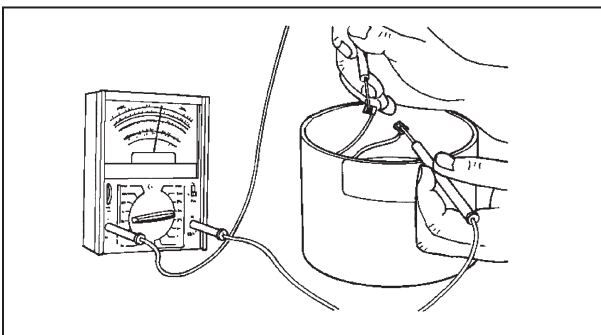

Figure 4.16
6. Test stator windings for open, grounded, or shorted conditions by connecting ohm meter leads to stator red and orange wires (see Figure 4.16). If meter does not move, replace stator.